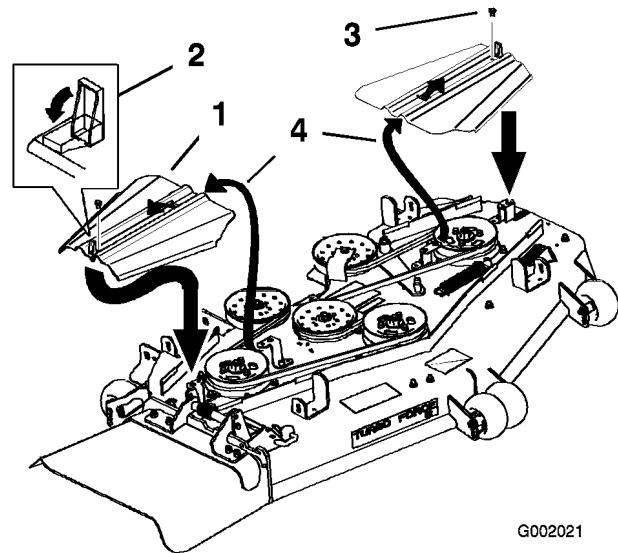
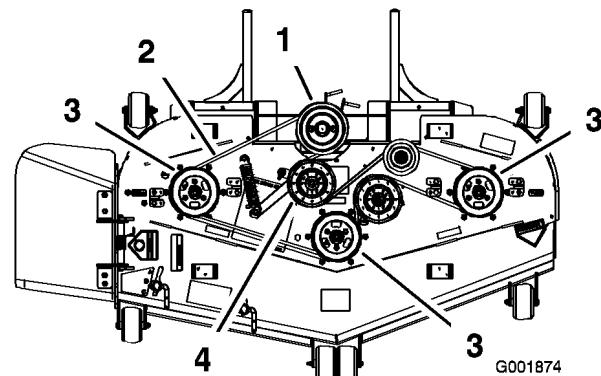
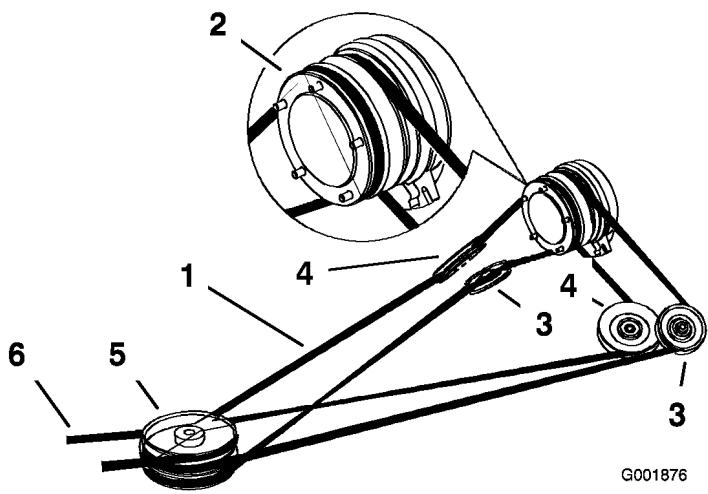

Figure 59
Figure 60
Figure 62
3. Remove the screws and belt covers (Figure 59).
5. Remove the mower belt from the mower pulleys and the top pulley of the three stacked pulleys (Figure 59 and Figure 60).
6. Install the new belt around the mower pulleys and the top pulley of the three stacked pulleys (Figure 59 and Figure 60).
7. Pull on the spring loaded idler arm to loosen the belt tension and align the mower belt onto the idler pulley (Figure 60).
8. Install the belt covers with the tabs in the slots. Install the screws and close the latches (Figure 59).
4. Pull on the spring loaded idler pulley to loosen the belt tension (Figure 62).
5. Remove the mower belt from the top pulley of the three stacked pulleys (Figure 60 and Figure 62).
7. Install the new drive belt around the clutch pulley, the adjustable idler pulleys, the spring loaded idler pulley, and the front three stacked pulleys (Figure 62).
9. Install the mower belt around the mower pulleys and the top pulley of the three stacked pulleys (Figure 60 and Figure 62).